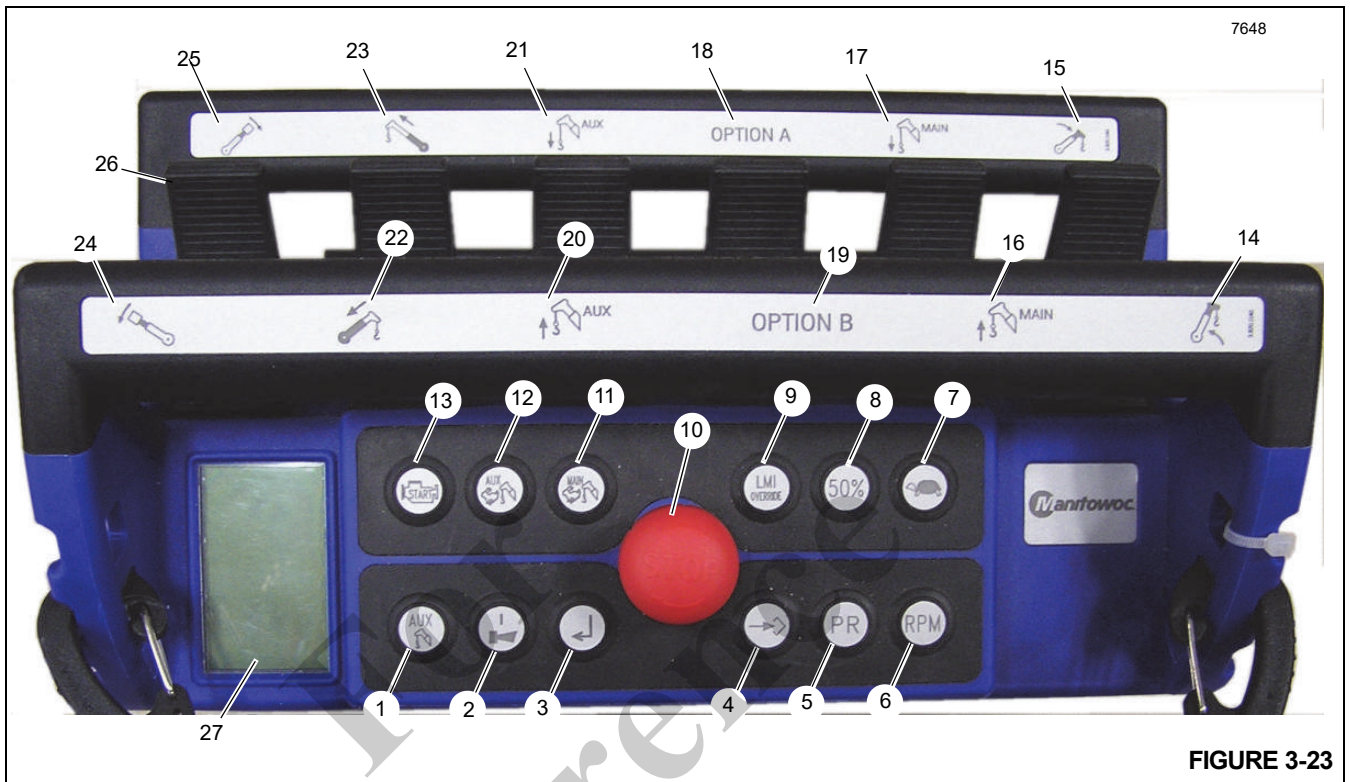

FIGURE 3-23
The optional Crane Remote Control (Figure 3-23) will allow full remote control of the crane. The standard Remote Control is disabled when using the optional Crane Remote Control.
The LCD Screen (27, Figure 3-23 and Figure 3-24) on the display is used to communicate signal strength, battery level, wireless channel, remote status, and the configuration of the machine based upon which buttons are depressed. RCL information is also displayed to the operator and can be toggled by pressing the Toggle Crane RCL Screen button (3). The following RCL information is available to the operator on the LCD screen:
To use this remote, the red STOP button (10, Figure 3-23) must be activated to turn ON the transmitter. To control the crane, the ON/Horn button (2) must be pressed to activate the remote. The crane horn will sound as confirmation that the remote is now active. The crane can now be started by pressing and holding the Engine Start button (13). The remote can now be used to control the crane. To activate a function move the joystick (26) that corresponds to the desired movement.
1. To use this remote, the red STOP button (10, Figure 3-23) must be activated to turn on the transmitter.
2. Press the ON/Horn button (2) to activate the remote. The crane horn will sound as confirmation that the remote is now active.
3. Press and hold the Engine Start button (13) to start the crane. The remote can now be used to control the crane.
4. Move the joystick (26) that corresponds to the desired movement to activate desired function.
5. Press the red STOP button (10) when finished with the remote. This will shut off the crane.